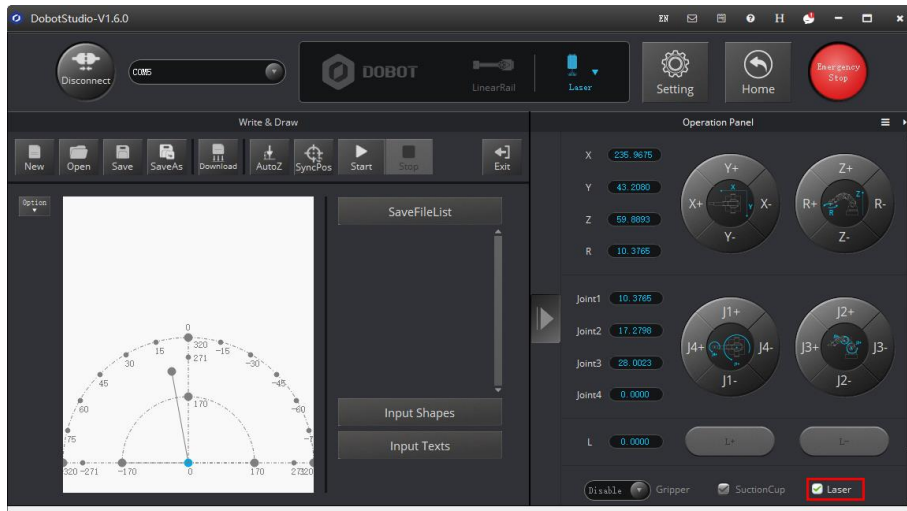

Figure 5.78 Turn on the laser
Step 2 Click  to display the **Operation Panel**, and then select **Laser** to turn on the laser, as shown in Figure 5.78. In this case, the laser gives out a laser beam.